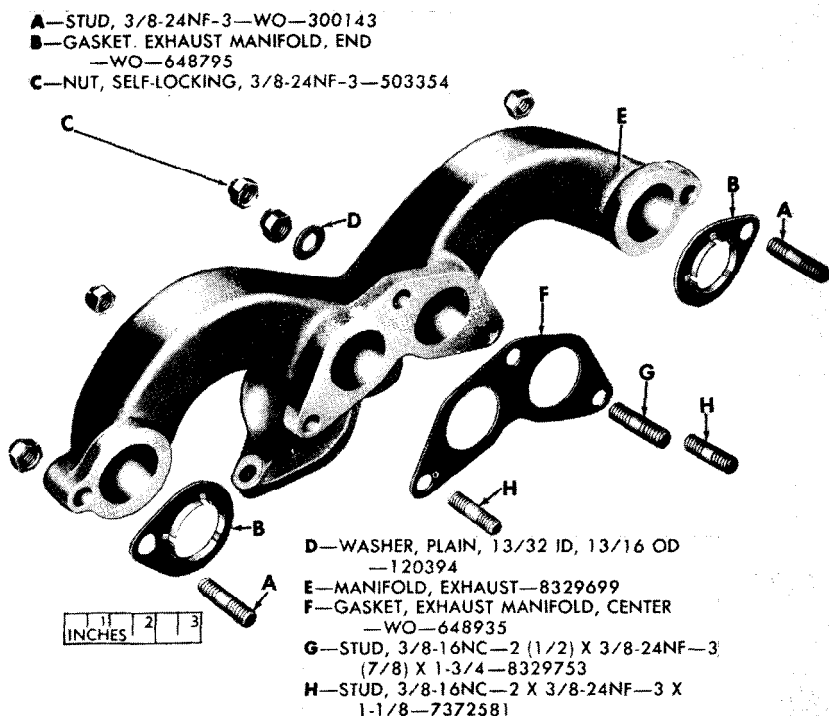

Figure 68. Exhaust manifold and attaching parts.
a. Inspection. Replace the exhaust manifold (fig. 68) if broken or cracked. Check for cracks particularly around the mounting holes and exhaust ports. Lay manifold on flat surface and check alinement of gasket surfaces. If manifold is broken, cracked or warped, it must be replaced.